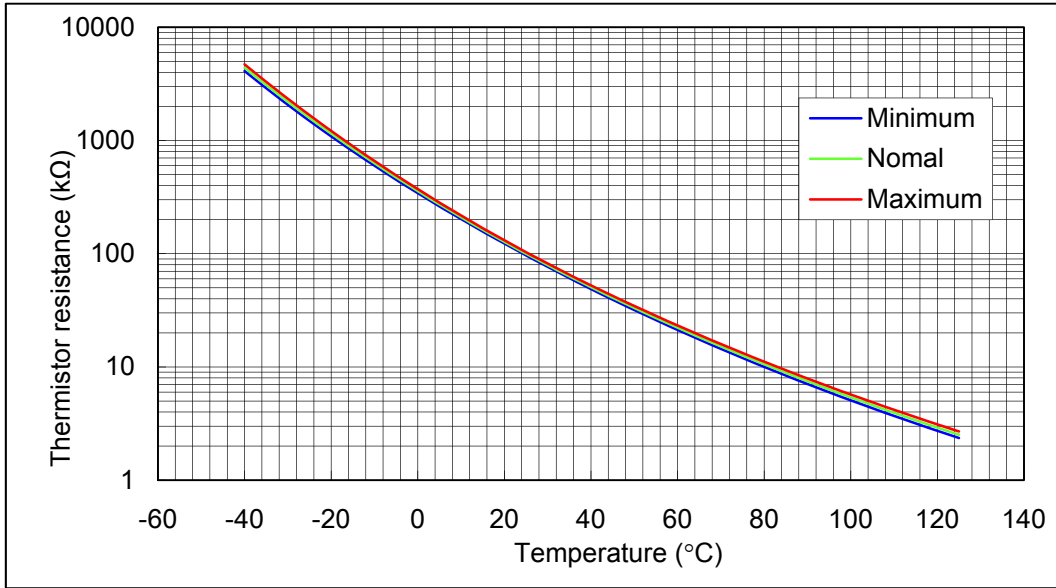
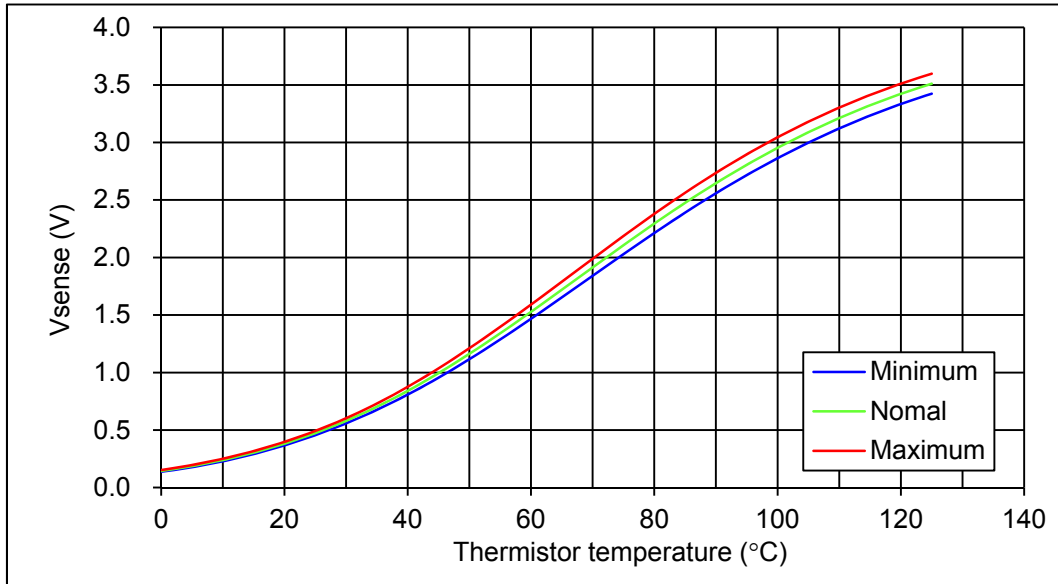
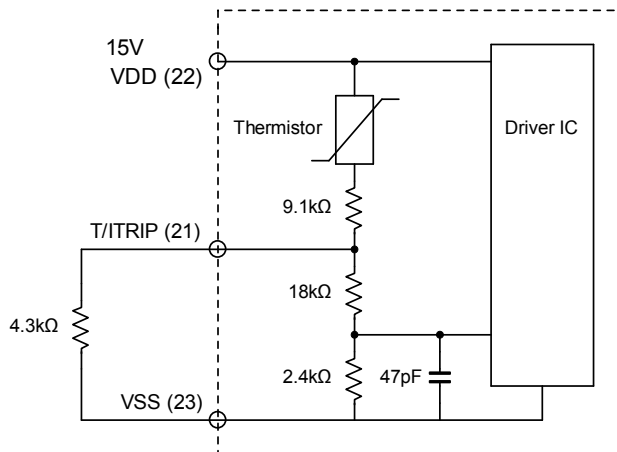

Fig. 10 Variation of thermistor resistance with temperature
Fig. 11 Variation of temperature sense voltage with thermistor temperature by using external bias resistance of 4.3 kΩ ±1% and VDD = 15 V
Fig. 12 Sample application circuit for temperature monitoring
7. Inside the IPM, a thermistor used as the temperature monitor is connected between  $V_{DD}$  terminal and T/ITRIP terminal, therefore, an external pull down resistor connected between the T/ITRIP terminal and  $V_{SS}$  terminal should be used. The temperature monitor example application is as follows, please refer the Fig.10, Fig.11, and Fig.12 below.